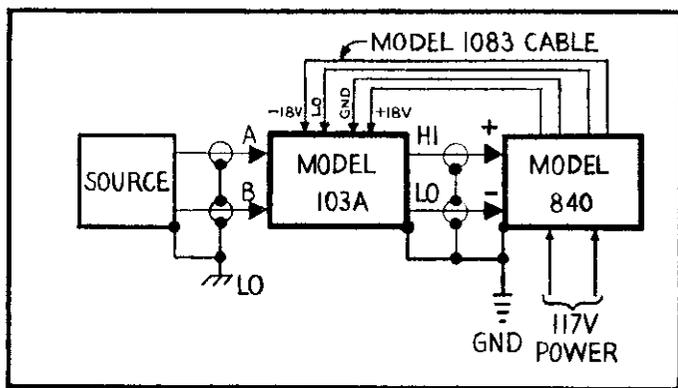

FIGURE 15. Use in System 84 Lockin Amplifier.
b. Lock-in-System Preamplifier. When used with a phase-sensitive detector such as the Keithley Model 840 the Model 103A can be connected as shown in Figure 15. In this application the Model 103A outputs mate with the differential input of the Model 840 thereby minimizing the effects of ground loop connections. For this application the Model 840 should be set for "DIFF" input mode. Since the Model 840 accessory power output provides low and ground as well as ± 18 volts, it is not necessary to connect the Model 103A chassis to earth ground.